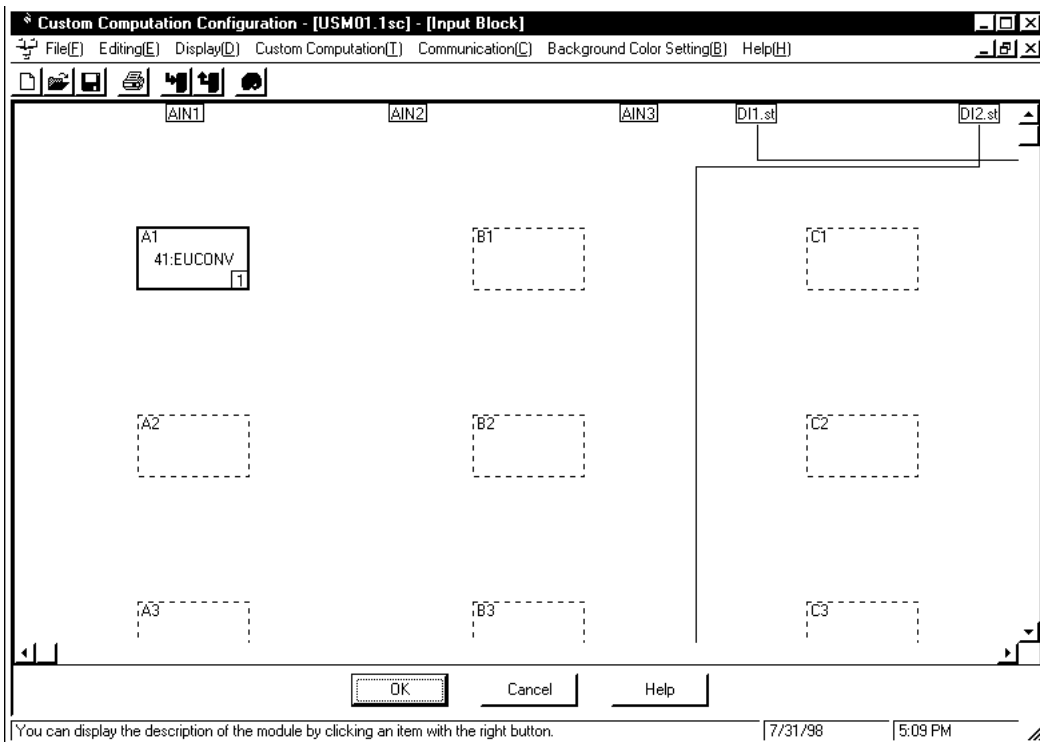

Figure 12.1.6 Example of the [Input Block] Dialog Box where the EUCONV Module Is Registered As the First-run Module
- ③ Click the <Special Calculation> index.
- ④ Double-click <41: EUCONV>. The EUCONV module is registered with the [Input Block] dialog box, as shown in Figure 12.1.6.